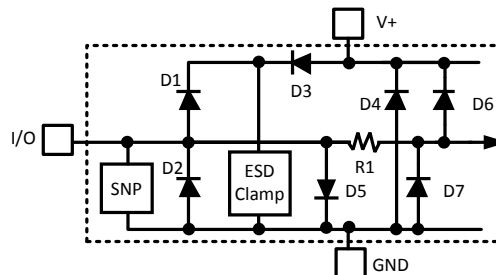

Figure 1. ESD Protection Input Structure
- (1) Absolute Maximum Ratings indicate limits beyond which damage to the device may occur. DC and AC electrical specifications do not apply when operating the device beyond its rated operating conditions.
- (2) Stresses beyond those listed under absolute maximum ratings may cause permanent damage to the device. These are stress ratings only, and functional operation of the device at these or any other conditions beyond those indicated under recommended operating conditions is not implied. Exposure to absolute-maximum-rated conditions for extended periods may affect device reliability.
- (3) When the input voltage (V_I) at any pin exceeds the power supplies ($V_I < \text{GND}$ or $V_I > V_{DD}$), the current at that pin should be limited to 5 mA. Parasitic components and/or ESD protection circuitry are shown in Table 1 and Figure 1 for the LM89's pins. The nominal breakdown voltage of D3 is 6.5 V. Care should be taken not to forward bias the parasitic diode, D1, present on pins: D+, D-. Forward biasing the parasitic diode by more than 50 mV may corrupt a temperature measurements.
- (4) Visit www.ti.com/packaging for other recommendations and methods of soldering surface mount devices.